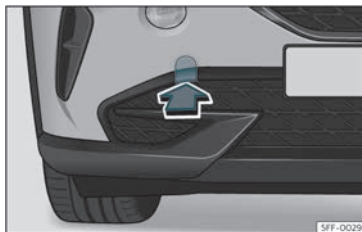

Fig. 43 On the right side of the front bumper: remove the cover.
The housing of the screw towing eye is on the right side of the front bumper behind a lid»» Fig. 43.
- Remove the cover by pressing down on its base and leave it hanging from the vehicle »» Fig. 43.